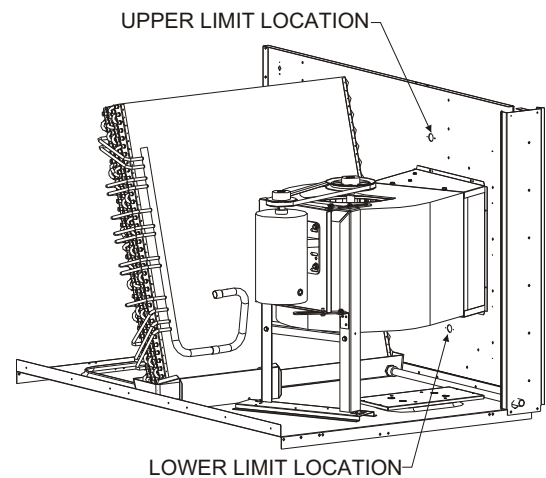

Figure 4
2. Based on the installed Heat Exchanger capacity reference **Table 1** below to determine the correct safety limit switches for horizontal operation. **Refer to Figure 4** for a description of the limit locations in the unit.
- Remove blower access panel and locate main air limits on the interior divider panel near the blower outlet duct. **See Figure 4.**